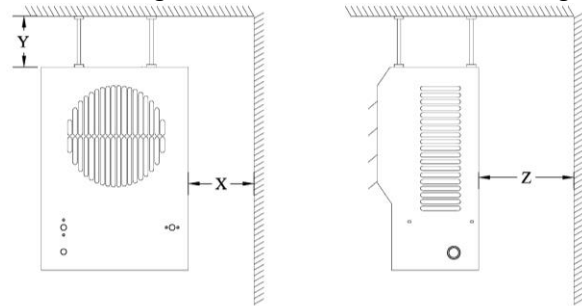

FIGURE 4
- Refer to table 3 and figure 4 below for minimum mounting clearances to the walls and ceiling: